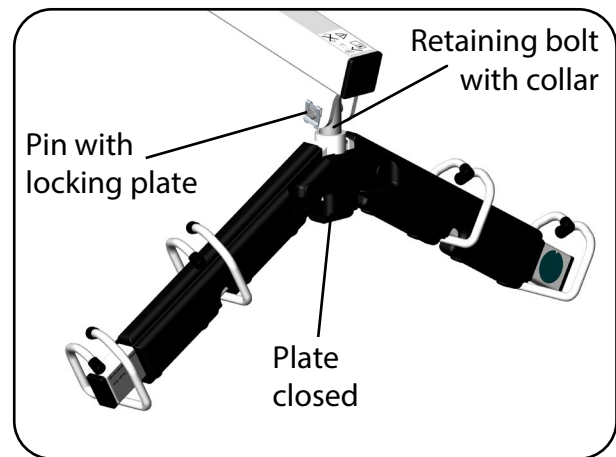

Fig. 6.2.08 - Spreader bar installed
13. Attach the spreader bar with the inserted retaining bolt with collar to the lifting arm by inserting the bolt through the holes on the end of the lifting arm. Secure the bolt with the locking plate and close the bar padding (plate) (Fig. 6.2.08).